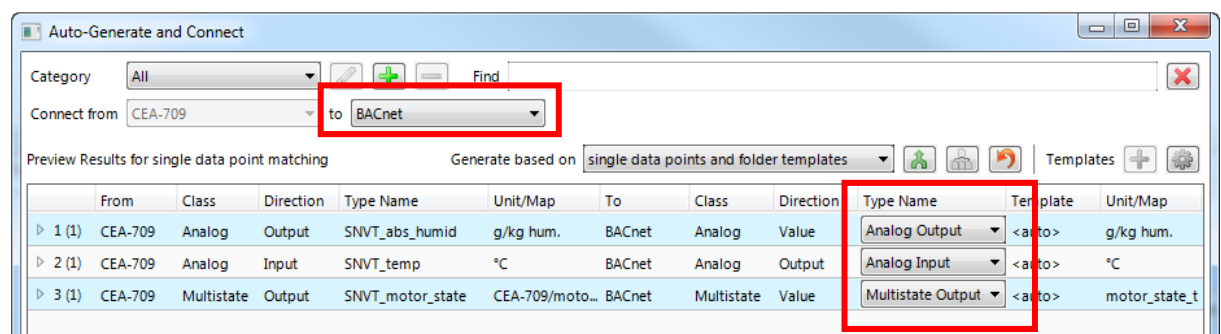

Figure 55: Auto-generate and connect preview.
5. The auto-generate preview dialog opens as shown in Figure 55. Choose the target technology. The preview results show a list for each source type found how it will be created as a target type. The **Type Name** column provides a drop-down to modify the result. This choice is remembered and will be applied the next time again. You may click the **Restore defaults** button  to revert all custom settings.